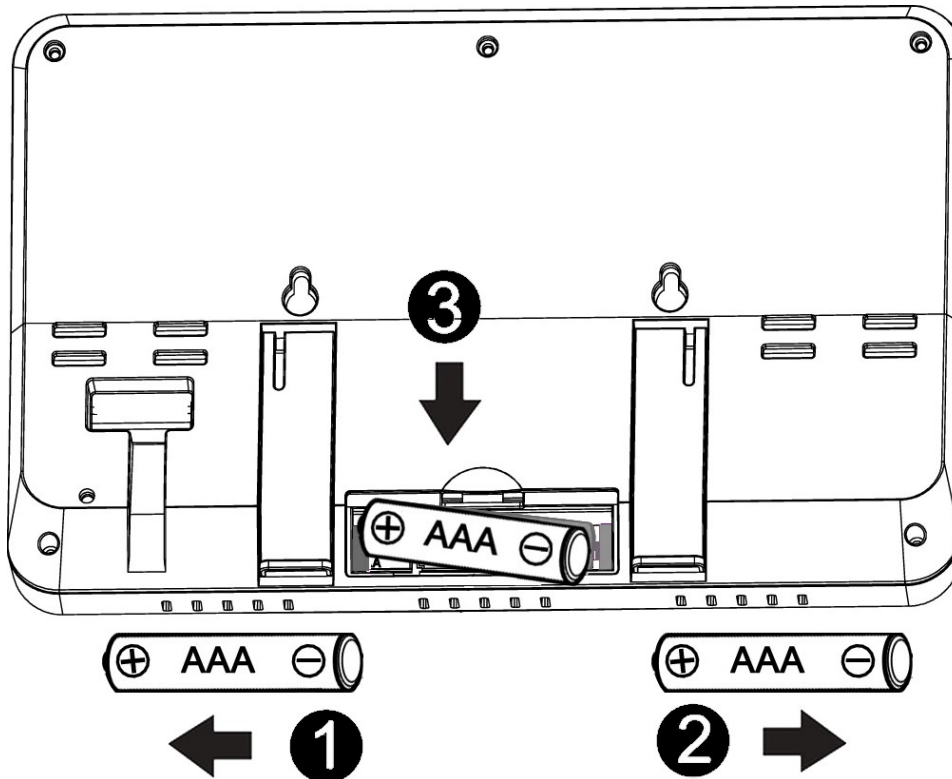

Figure 10
- (1) Connect the display console power jack to AC power adapter with the included power adapter.
- (2) Unfold the desk stand and place 5 to 10 feet away from the sensor array.
- Remove the battery door on the back of the console, and insert 3xAAA batteries per Figure 10.
- (3) Wait several minutes for the remote sensors to synchronize with the display console.